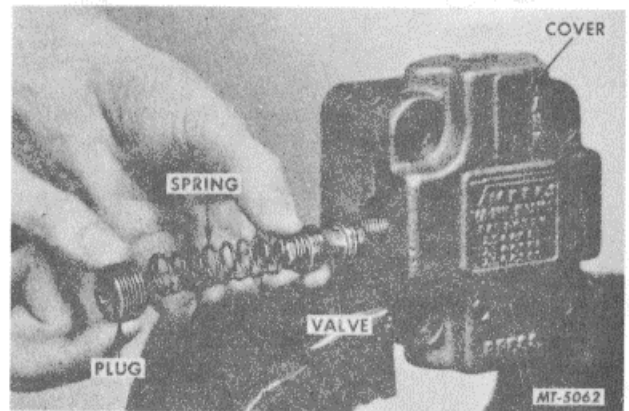

Fig. 17
14. Check whether there is a plug at each end of the relief valve bore in the cover. If the bore is blind, remove the plug and snap ring to release the valve and spring as shown in the insert in Fig. 5. If the bore is through the cover, remove only the one plug to release the spring and valve, Fig. 17. Leave the snap ring and the other plug in the cover.